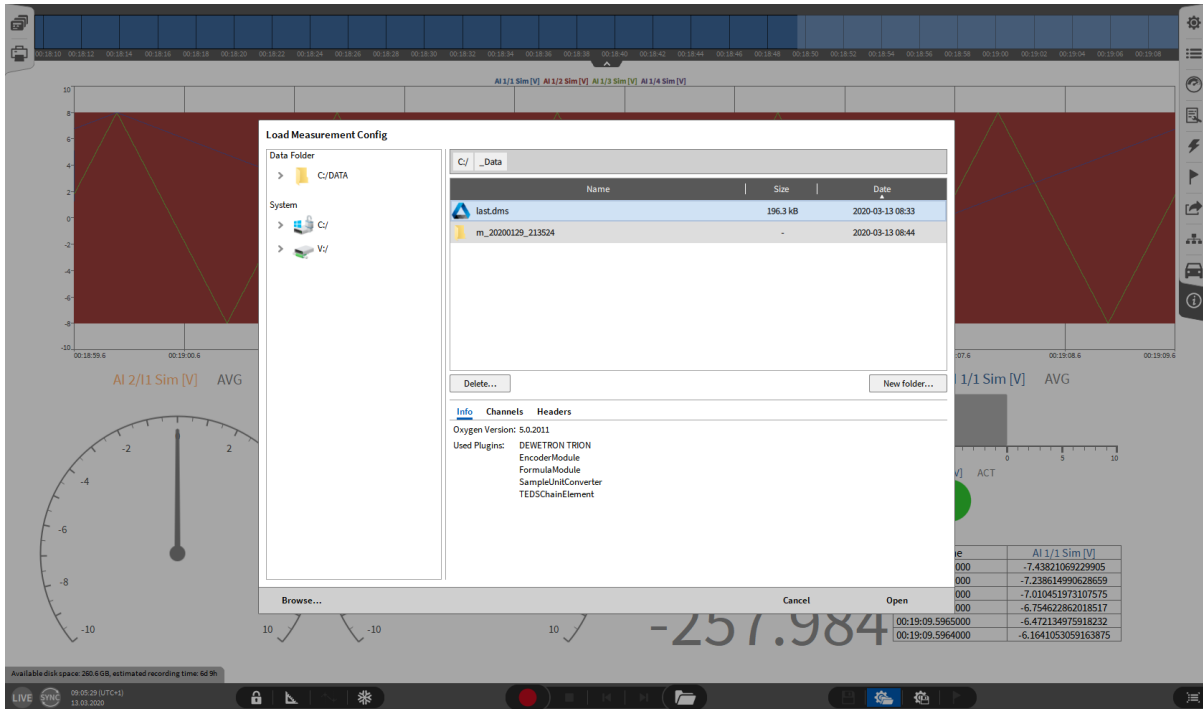

Fig. 3.12: Loading a Setup file
1. Touch or left click the gear and folder icon along the bottom tool bar (see Fig. 3.12 ⑭ in Fig. 3.5)